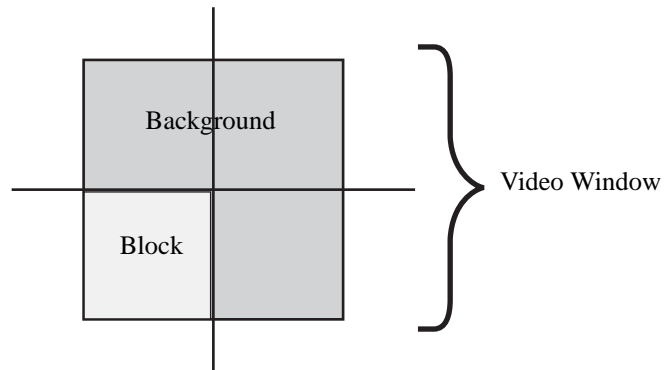

Figure A-4 Crosshair Location, Z-Axis Gage Block
13. Find and focus the upper-right corner of the gage block that is permanently mounted on the fixture (see Figure A-4). You may have to adjust the coaxial light level.